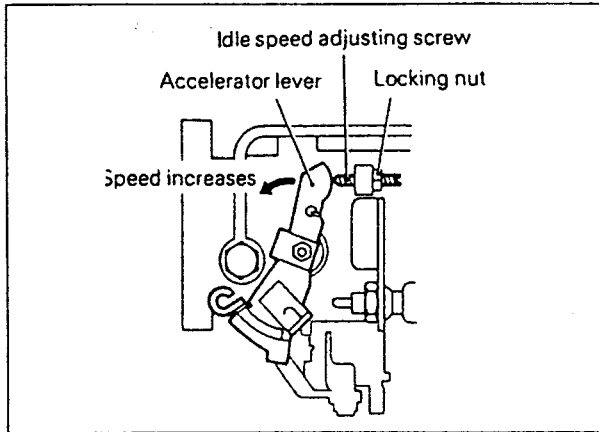

Fig. 15.45. — Idle speed adjusting details.
- If the speed is not within 750 ± 50 rpm, refer to Fig. 15.45 and slacken the locking nut. Use a screwdriver and turn the idle speed adjusting screw until the correct speed has been obtained. The screw is screwed further in to increase the idle speed, as shown by the arrow.